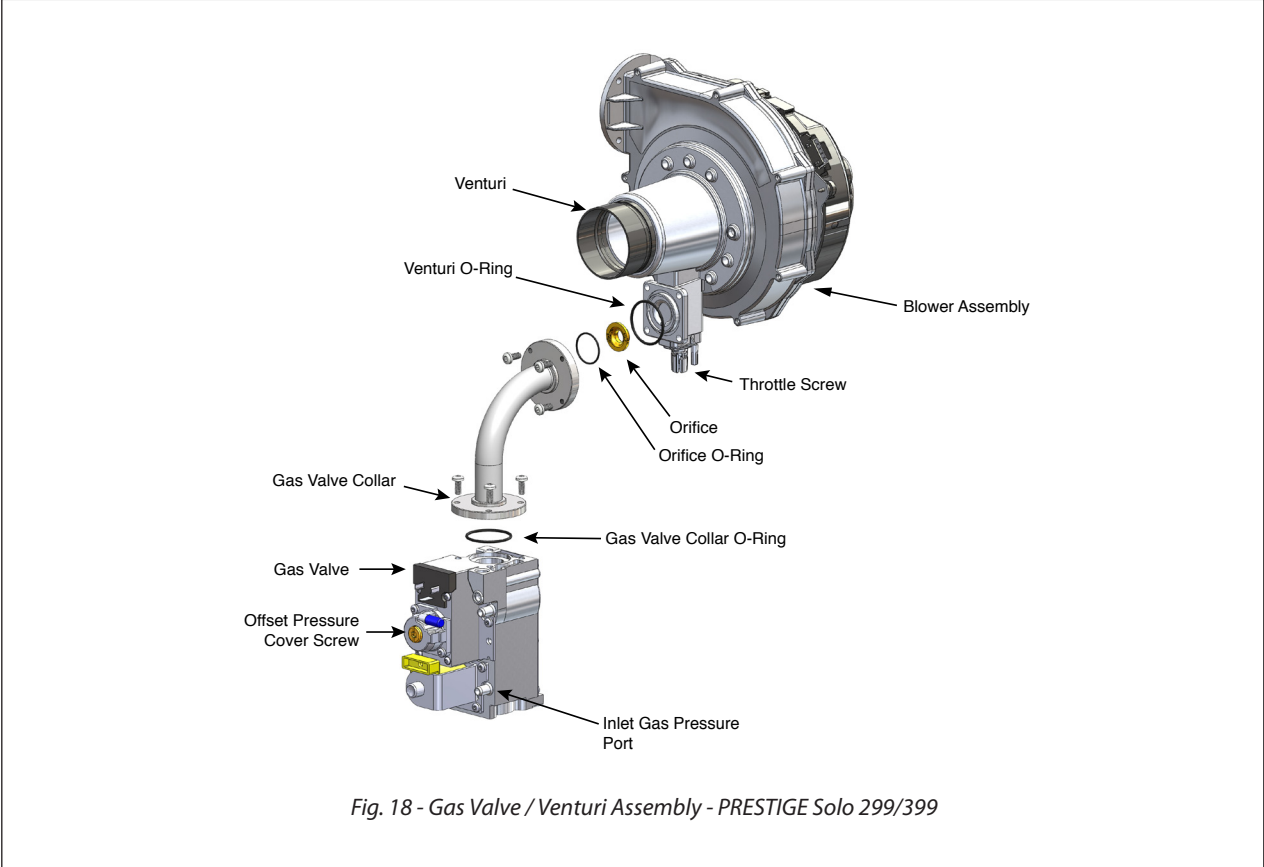

Fig. 18 - Gas Valve / Venturi Assembly - PRESTIGE Solo 299/399
- Prior to start up, ensure the unit is set to fire propane. Check the rating label for the type of fuel. Check the gas valve for propane conversion label. If there is a conflict or doubt on the burner set up, remove the gas valve and check for the propane orifice, see Fig. 16 or Fig. 17 on page 28 or Fig. 18 on page 29.